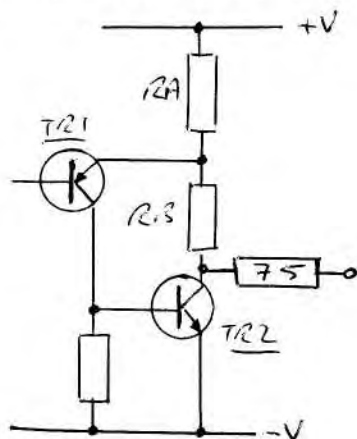
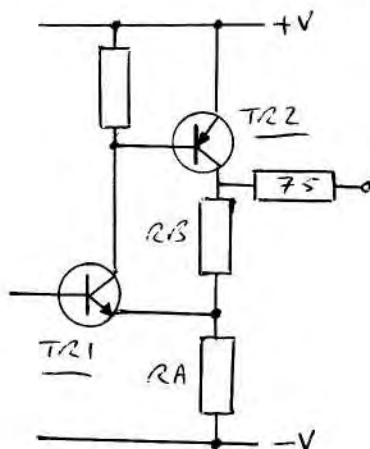
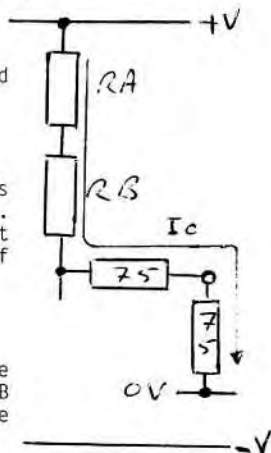

Fig. 1
Fig. 2
FIG. 3
1. C117 - 4.7uF tantalum is reversed in Fig.1 of Radcom for Feb. 1983, on the PCB layout in Radcom for March '83 and the BATC receiver analogue board. This causes incorrect size sync pulses on receive, which in turn causes erratic line sync and each line to be incorrectly located giving ragged edges on the picture.
2. C216 - 220uF reversed in Fig.2 of Radcom for Feb.'83, on the PCB layout in Radcom for March '83 and the BATC digital memory board.
The use of a PNP/NPN output stage as shown in Fig.1 and Fig.2 is a very popular configuration, exhibiting, as it does, good linearity due to the high level of feedback as well as being easy to design for a particular gain. There are however a few points which must be taken into account for the circuit to work at peak efficiency.
1. The output swing is not symmetrical. In the circuit shown in Fig.1 for example the output can be driven almost down to the negative rail, but the positive swings are limited by  $R_A$  and  $R_B$  in series with the load (see Fig.3). The same will be true for the circuit shown in Fig.2, where the output will swing from almost the positive rail to the negative rail minus that limited again by  $R_A$  plus  $R_B$ .
2. Dissipation in  $R_A$ ,  $R_B$  and  $TR_2$  can be a problem, especially if using the circuits at  $\pm 12$  volts and driving several loads. One should remember that for the desired zero volts output half of the available HT voltage is across  $TR_2$  and half across  $R_A/R_B$ . Standing current needs to be limited to approximately 17mA for each 75-ohm load, thus four loads require a current of 68mA, causing a power level of 816mW ( $68m \times 12v$ ) to be dissipated in  $TR_2$  and also across  $R_A/R_B$ . It is my view that for small signal use such as video signals it is better to power the circuit from  $\pm 5$  volts. Also it is important to choose the correct circuit, video signals require a larger positive swing so the circuit shown in Fig.2 should be used.